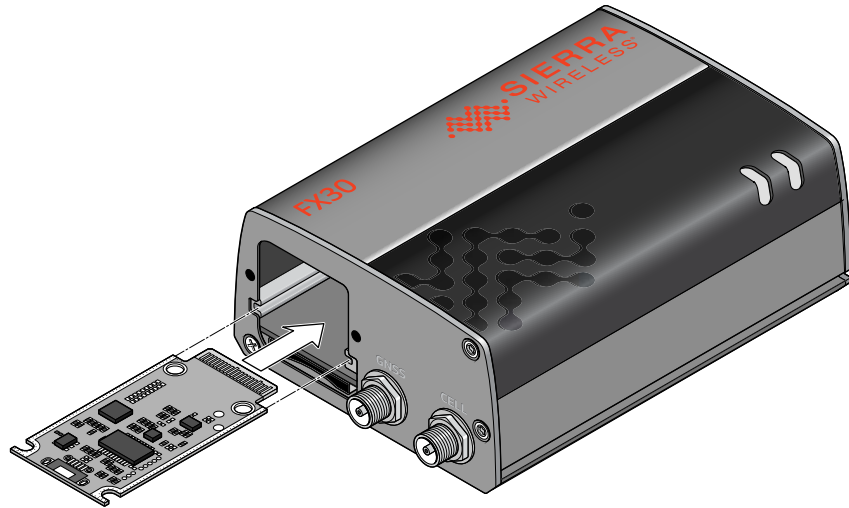

Figure 2-2: Installing the IoT Expansion card
2. Orient the IoT Expansion card as shown in Figure 2-2 and slide the card into the IoT slot.